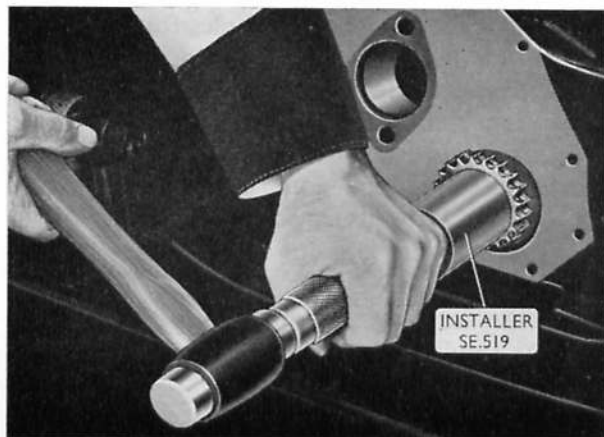

Fig. A.45. Installing the crankshaft timing wheel
1. Drive the timing wheel right home against the crankshaft shoulder (Fig. A.45) with the wheel timing mark facing away from the engine.